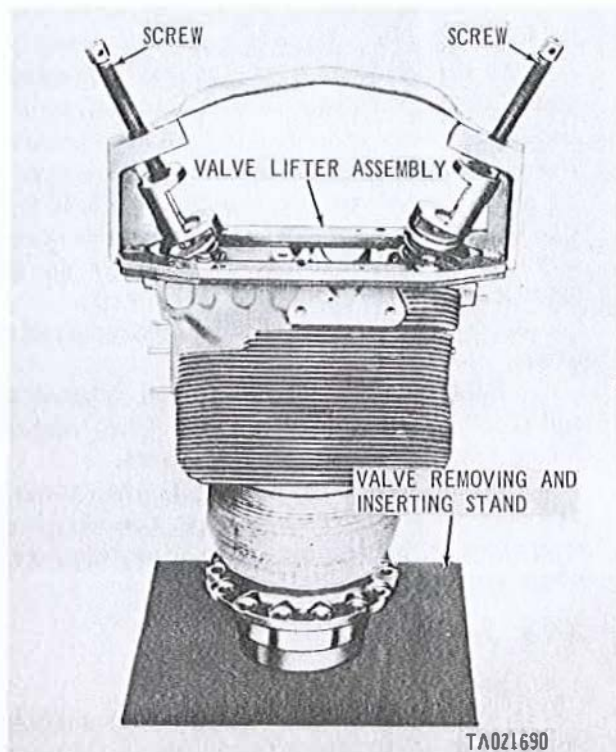

Figure 3-200. Compressing valve springs using valve lifter assembly.
(2) Install the exhaust valve rotor (37, fig. 3-186) outer, intermediate and inner springs (8, 9, and 10), and exhaust valve spring upper retainer (38) over the exhaust valve stem as shown in figure 3-188. Install the lower intake valve spring seat (7) outer, intermediate and inner springs (8, 9, and 10), and upper intake valve spring retainer (11) over the intake stem in the same manner. Compress valve springs and install valve locks following instructions which accompany figure 3-200.